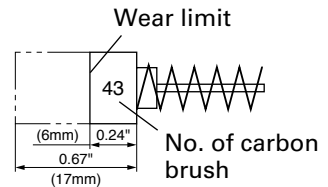

Fig. 19
3. Inspecting the carbon brushes (Fig. 19)
NOTE: Use HITACHI carbon brush No. 43 indicated in Fig. 19.